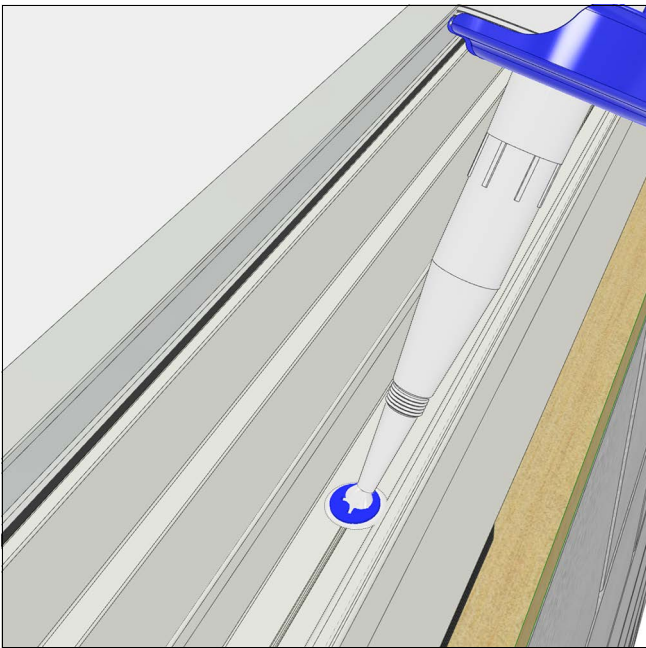

Figure 15
8. Then, seal over the screw heads of the fasteners with additional silicone. See Figure 15.